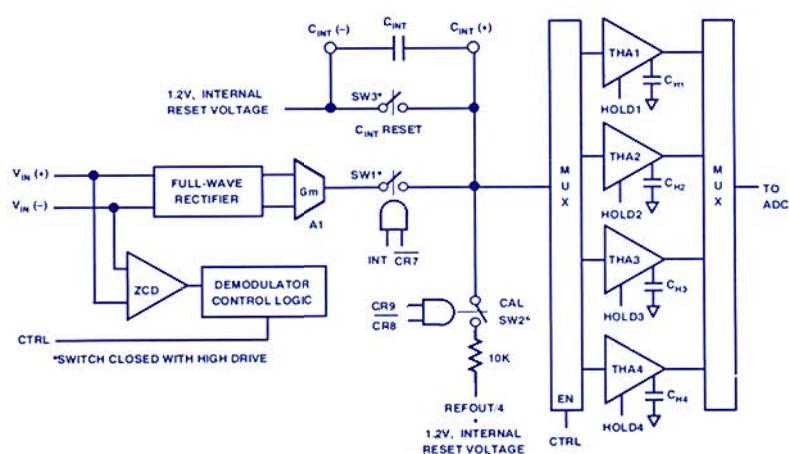

Figure 3. Demodulator channel block diagram.
**Demodulator channel operation** The demodulator channel (Figure 3) can operate in either of two major modes: synchronous detection and gated detection. In synchronous mode, a zero-crossing detector synchronously detects full cycles of the input signal, which are then rectified and integrated. The number of cycles within a burst and the number of bursts to be captured are both programmable.